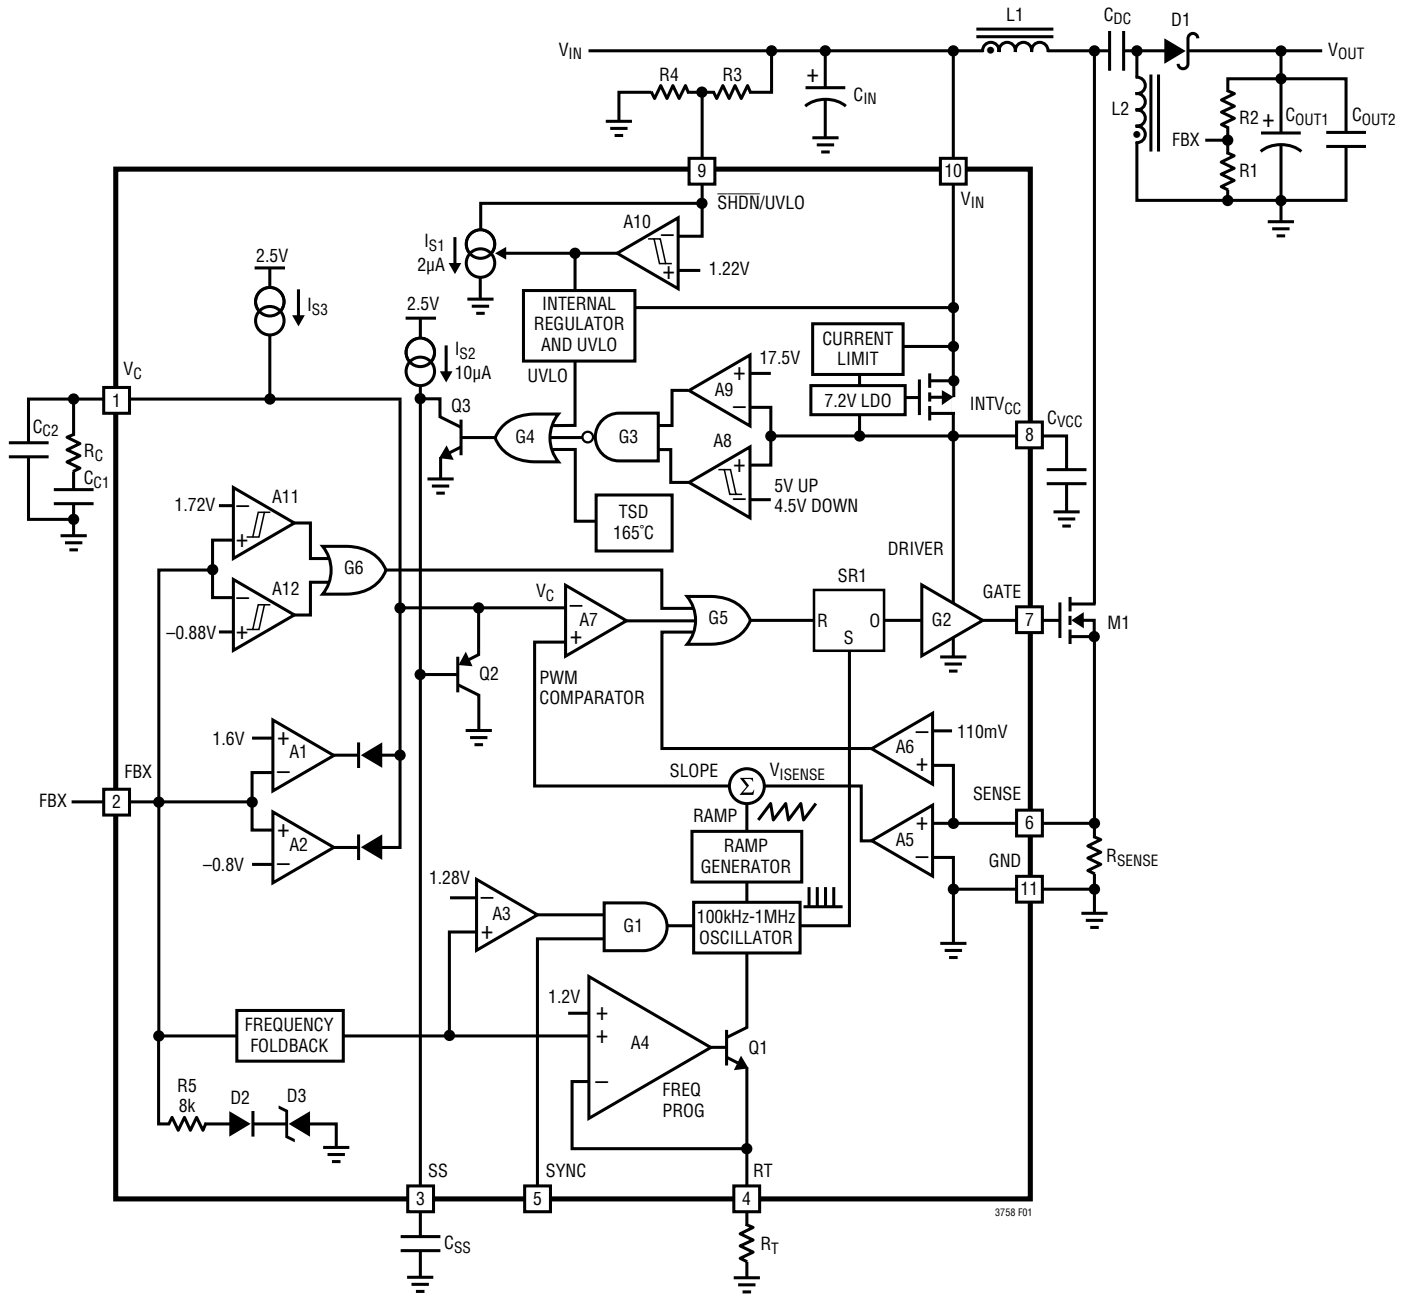

Figure 1. LT3758 Block Diagram Working as a SEPIC Converter
The LT3758 uses a fixed frequency, current mode control scheme to provide excellent line and load regulation. Operation can be best understood by referring to the Block Diagram in Figure 1.
The LT3758 is capable of generating either positive or negative output voltage with a single FBX pin. It can be configured as a boost, flyback or SEPIC converter to generate positive output voltage, or as an inverting converter to generate negative output voltage. When configured as a SEPIC converter, as shown in Figure 1, the FBX pin is pulled up to the internal bias voltage of 1.6V by a voltage divider (R1 and R2) connected from  $V_{OUT}$  to GND. Comparator A2 becomes inactive and comparator A1 performs the inverting amplification from FBX to  $V_C$ . When the LT3758 is in an inverting configuration, the FBX pin is pulled down to  $-0.8V$  by a voltage divider connected from  $V_{OUT}$  to GND. Comparator A1 becomes inactive and comparator A2 performs the noninverting amplification from FBX to  $V_C$ .
The purpose of this current is to allow the user to program the rising hysteresis. The Block Diagram of the comparator and the external resistors is shown in Figure 1. The typical falling threshold voltage and rising threshold voltage can be calculated by the following equations:
An internal, low dropout (LDO) voltage regulator produces the 7.2V INTVCC supply which powers the gate driver, as shown in Figure 1. The LT3758 contains an undervoltage lockout comparator A8 and an overvoltage lockout comparator A9 for the INTVCC supply. The INTVCC undervoltage (UV) threshold is 4.5V (typical), with 0.5V hysteresis, to ensure that the MOSFETs have sufficient gate drive voltage before turning on. The logic circuitry within the LT3758 is also powered from the internal INTVCC supply.
The choice of operating frequency may be determined by on-chip power dissipation, otherwise it is a trade-off between efficiency and component size. Low frequency operation improves efficiency by reducing gate drive current and MOSFET and diode switching losses. However, lower frequency operation requires a physically larger inductor. Switching frequency also has implications for loop compensation. The LT3758 uses a constant-frequency architecture that can be programmed over a 100kHz to 1000kHz range with a single external resistor from the  $R_T$  pin to ground, as shown in Figure 1. The  $R_T$  pin must have an external resistor to GND for proper operation of the LT3758. A table for selecting the value of  $R_T$  for a given operating frequency is shown in Table 1.
The output voltage  $V_{OUT}$  is set by a resistor divider, as shown in Figure 1. The positive and negative  $V_{OUT}$  are set by the following equations:
In the applications where  $V_{OUT}$  is pulled up by an external positive power supply, the FBX pin is also pulled up through the R2 and R1 network. Make sure the FBX does not exceed its absolute maximum rating (6V). The R5, D2, and D3 in Figure 1 provide a resistive clamp in the positive direction. To ensure FBX is lower than 6V, choose sufficiently large R1 and R2 to meet the following condition:
The LT3758 addresses this mechanism with the SS pin. As shown in Figure 1, the SS pin reduces the power MOSFET current by pulling down the  $V_C$  pin through Q2. In this way the SS allows the output capacitor to charge gradually toward its final value while limiting the start-up peak currents. The typical start-up waveforms are shown in the Typical Performance Characteristics section. The inductor current  $I_L$  slewing rate is limited by the soft-start function.
load transient response, when compared to the LT3758. New internal circuits ensure that the transient from not switching to switching at high current can be made in a few cycles. The optimum values depend on the converter topology, the component values and the operating conditions (including the input voltage, load current, etc.). To compensate the feedback loop of the LT3758/LT3758A, a series resistor-capacitor network is usually connected from the  $V_C$  pin to GND. Figure 1 shows the typical  $V_C$  compensation network. For most applications, the capacitor should be in the range of 470pF to 22nF, and the resistor should be in the range of 5k to 50k. A small capacitor is often connected in parallel with the RC compensation network to attenuate the  $V_C$  voltage ripple induced from the output voltage ripple through the internal error amplifier. The parallel capacitor usually ranges in value from 10pF to 100pF. A practical approach to design the compensation network is to start with one of the circuits in this data sheet that is similar to your application, and tune the compensation network to optimize the performance. Stability should then be checked across all operating conditions, including load current, input voltage and temperature.